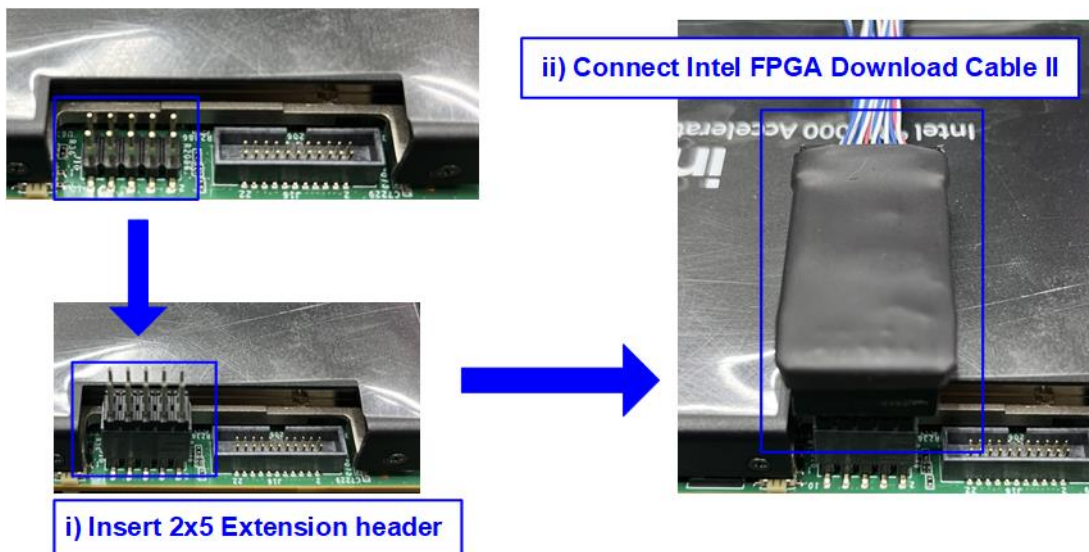

Figure 3 Connect Intel FPGA Download Cable II
- ii) Connect Intel FPGA Download Cable II to 2x5 Extension header as shown in Figure 3.